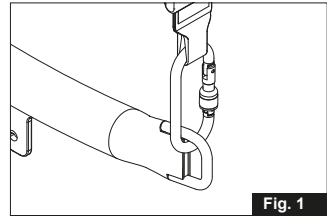

Fig. 1
1. Start with the installation of the GH3 lifting beam. Place each of the lifting straps oval hook in the eye of the GH3 lifting beam, one on each side (*Fig. 1 and 2*).